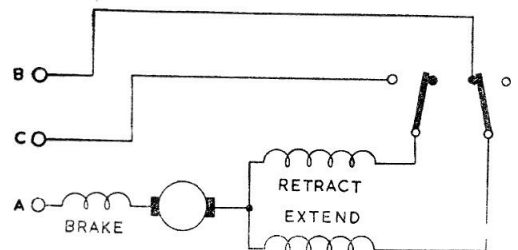

Fig. 2. Typical circuit diagram
11. The movement of the ram is controlled by snap action limit switches. Generally speaking, actuators in the A1700 series incorporate four switches, two being provided for each motor to control the ram travel in each direction. (*fig. 2*). For certain applications, however, eight switches may be provided where control of a mid-way position is required.